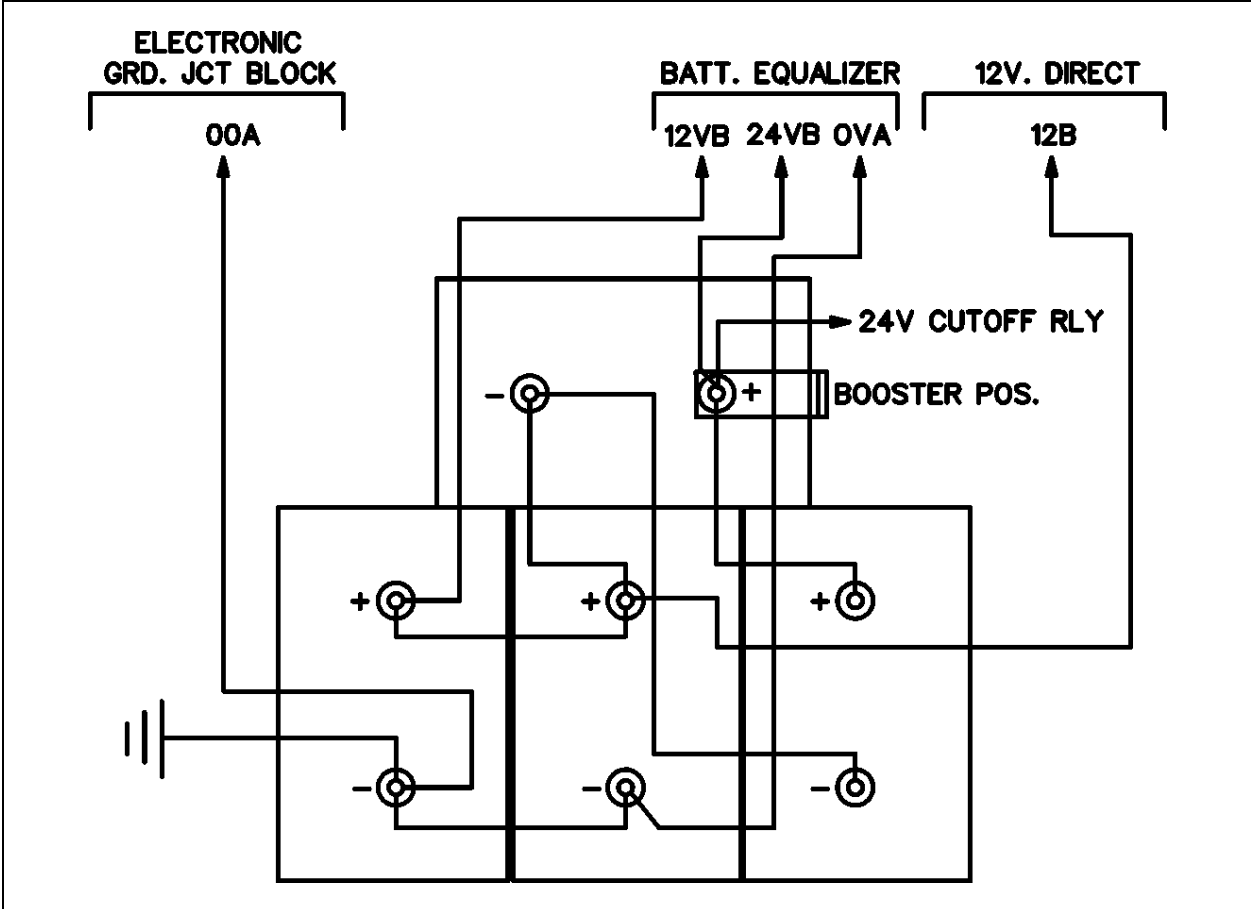

FIGURE 13: BATTERIES CONNECTIONS 06649
The vehicle is provided with four (4) maintenance-free 12 volt heavy-duty batteries connected in series-parallel (Fig. 13). The top-mounted negative and positive terminals are tightly sealed to prevent leaks. Water never needs to be added to this type of battery. There are no filler caps in the cover. The battery is sealed, except for small vent holes in the cover. The vents must not be restricted as they allow small amounts of gases produced in the battery to escape. The special chemical composition inside the battery reduces gassing to a very small amount at normal charging voltages. Besides reducing gassing, the special chemistry greatly reduces the possibility of overcharge damage.
The batteries are located in the engine compartment R.H. side area (Fig. 13).